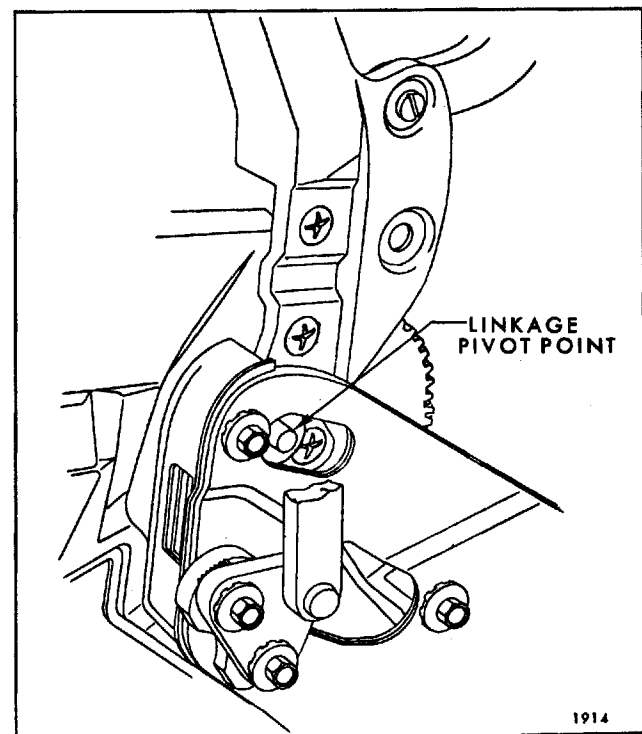

Fig. 6-89—Linkage Pivot Point
- d. Rotate male hinge assembly forward or rearward around linkage pivot point, as required; then tighten attaching bolts (Fig. 6-89).